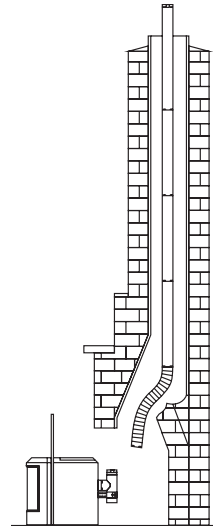

Figure 9
7. Repeat this process for the remainder of the pipe sections, and lower the assembly down the chimney as shown in *Figure 9*. Lower it below its normal position in order to connect the Flex Pipe to the pipe on the appliance. It may be necessary to tie a line to the top section, to pull it back up later.